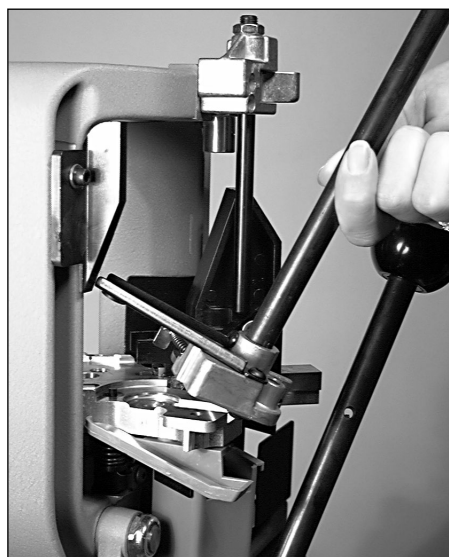

FIG 163
3. Carefully lift the primer assembly away from the machine **FIG 163**.